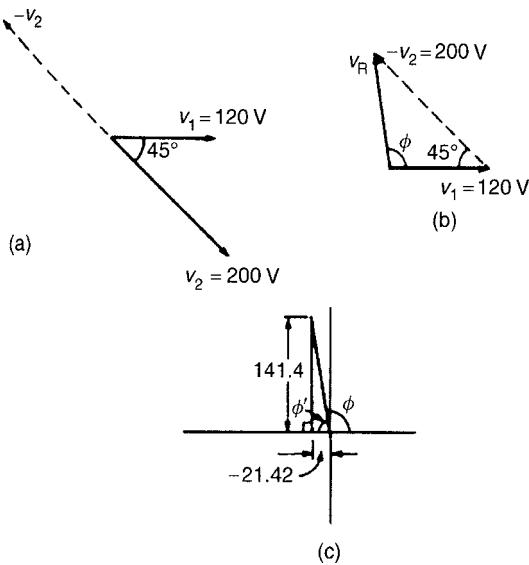

Figure 14.14
- (b) The relative positions of  $v_1$  and  $v_2$  are shown at time  $t = 0$  as phasors in Fig. 14.14(a). Since the resultant of  $v_1 - v_2$  is required,  $-v_2$  is drawn in the opposite direction to  $+v_2$  and is shown by the broken line in Fig. 14.14(a). The phasor diagram with the resultant is shown in Fig. 14.14(b) where  $-v_2$  is added phasorially to  $v_1$ .
From Fig. 14.14(c), resultant